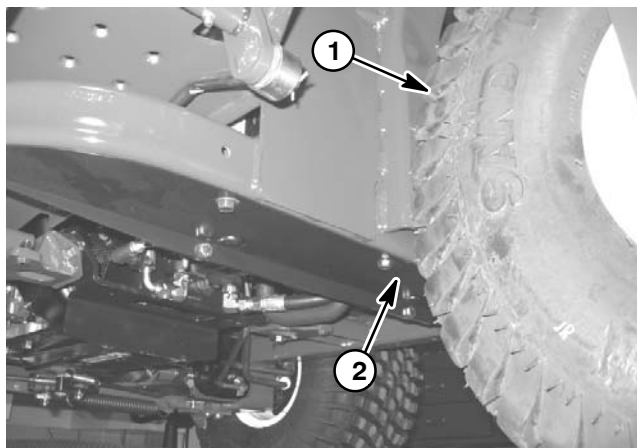

Figure 1
1. Jack the front of the machine from the bottom of the frame behind the front wheel (Fig. 1). Make sure that jack is positioned directly under frame to prevent damage to oil cooler.